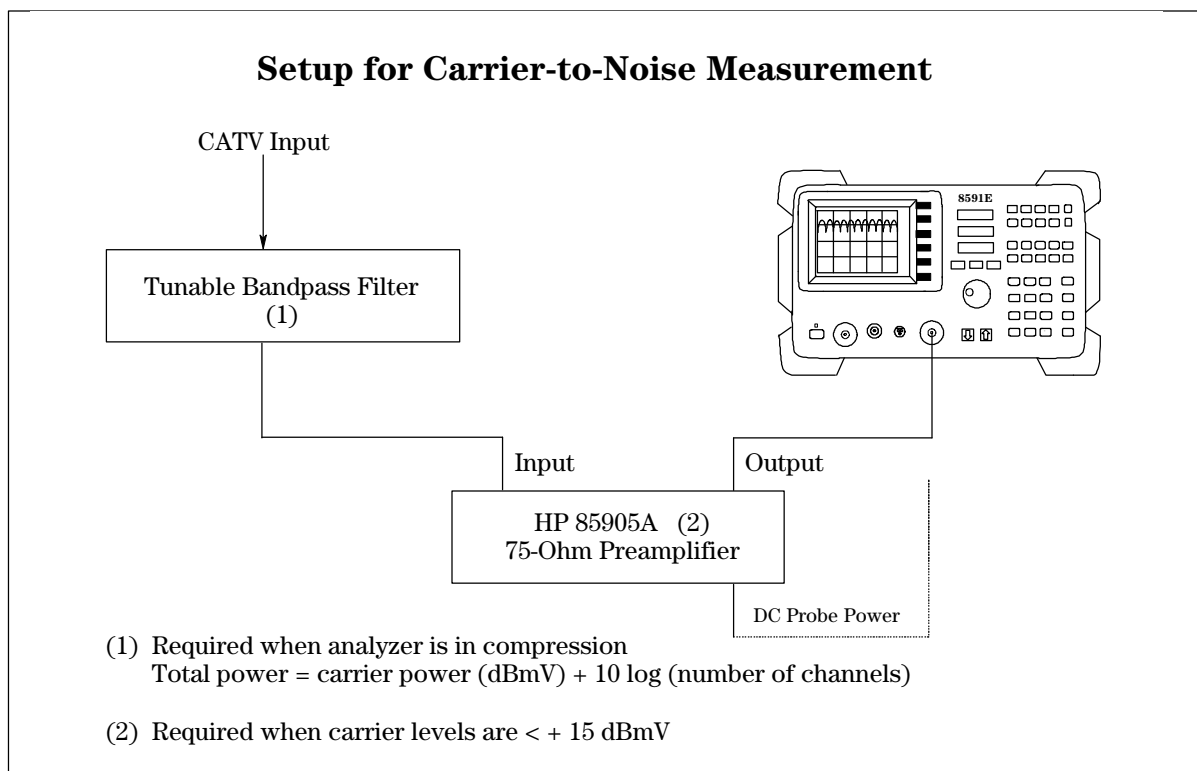

Figure 4.5. Getting required sensitivity for C/N measurement without overloading the analyzer.
1. Setup the analyzer as in the Figure 4.5.
2. Test for overload. Since the analyzer is a wideband receiver the power at its input mixer can cause the carrier to appear below its actual level (analyzer compression). Note the carrier level change when changing the RF attenuator. If the signal level changes by more than 0.5 dB, use the higher attenuator setting or insert a bandpass filter as shown in Figure 4.5 and repeat steps 1 and 2.